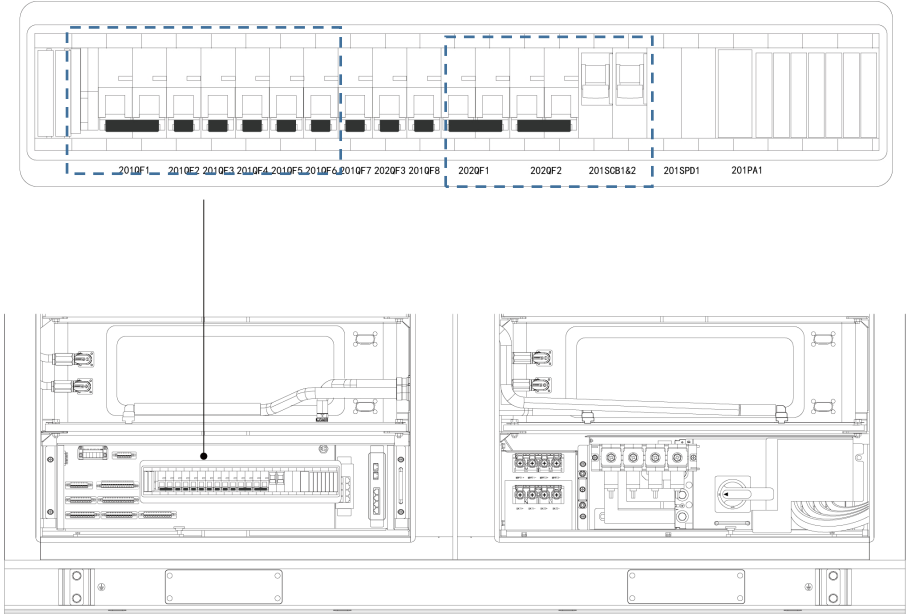

Figure.2
See the Figure.2.
- ② Attach to auxiliary power and external UPS. See the “How to position terminals related?” in the section 4.2.1. Verify that both the external AC auxiliary power input and the external UPS AC input voltages are within their specified normal ranges by utilizing a multi-meter.
- ③ Turn on the AC auxiliary power supply breaker **201QF1** and AC UPS breaker **202QF1**. See the Figure.2.
- ④ Turn on the lead-acid battery breaker **202QF3** and perform a vision inspection for the ring network switch by indicators' lighting up.
- ⑤ Turn on the PV power breaker **201QF2** after ensuring the voltage level of the external photovoltaic loop is within the normal range by utilizing a multi-meter. See the Figure.2.
- ⑥ Turn on the liquid cooling system breaker **201QF3**, DC auxiliary power breaker **201QF4**, fan breaker **201QF5** and dehumidifier breaker **201QF6**. See the Figure.2.
Measure the 24V DC voltage at the input of 202QF2, and verify the high-voltage box, battery pack power supply, and communication status. If all are normal, turn the DC auxiliary power breaker **202QF2**. See the Figure.2.